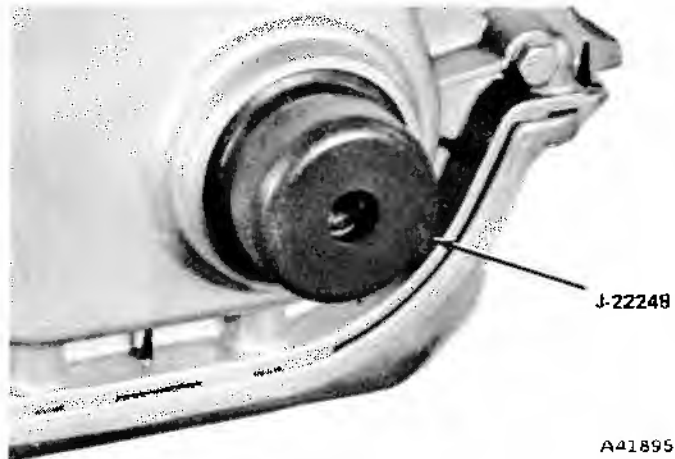

Fig. 1A-25 Timing Chain Cover Alignment
(6) Remove cover aligning tool and place a new oil seal on tool with the seal lip facing cover. Apply a light film of Perfect Seal or equivalent on the outside diameter of the seal.
(7) Insert draw screw from Tool J-9163 into seal installing tool and press seal into cover until bottomed in cover opening (fig. 1A-26).
(8) Remove tools, and apply a light film of engine oil on the seal lip.
(9) Install vibration damper and tighten retaining bolt to 55 foot-pounds torque.
(10) Install accessory pulley (if equipped).
(11) Install engine fan and hub assembly.
(12) Install drive belt(s) and tighten to specified tension.